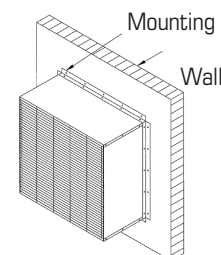

Figure 2 -
- Attach (4) mounting angles to the fan housing and wall framing, (Refer to Figure 2).